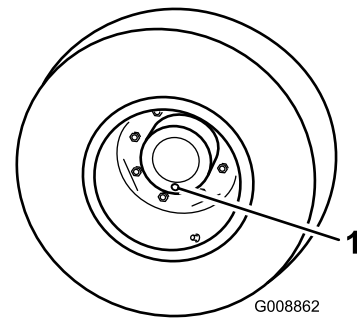

Figure 89
1. With the machine on a level surface, position a wheel so that one of the check plugs is at the lowest (6 o'clock) position (Figure 89).